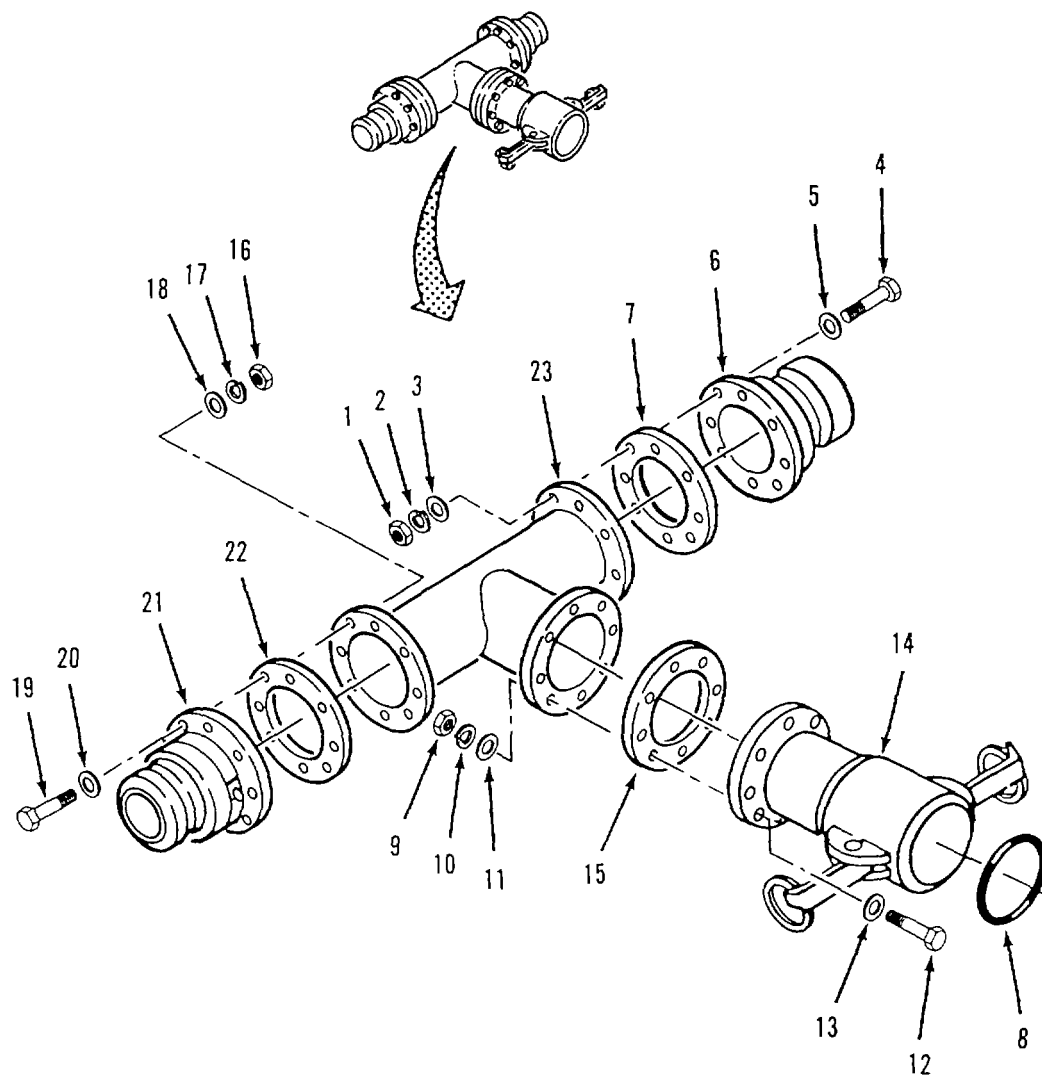

Figure 4-25. Tee Assembly (9112-Y4) Disassembly
- a. Disassembly. Refer to figure 4-25.
- (1) Remove eight nuts (1), lock-washers (2), flat washers (3) and screws (4) and flat washers (5).
- (3) Separate male coupling (6) and gasket (7) from tee (23).